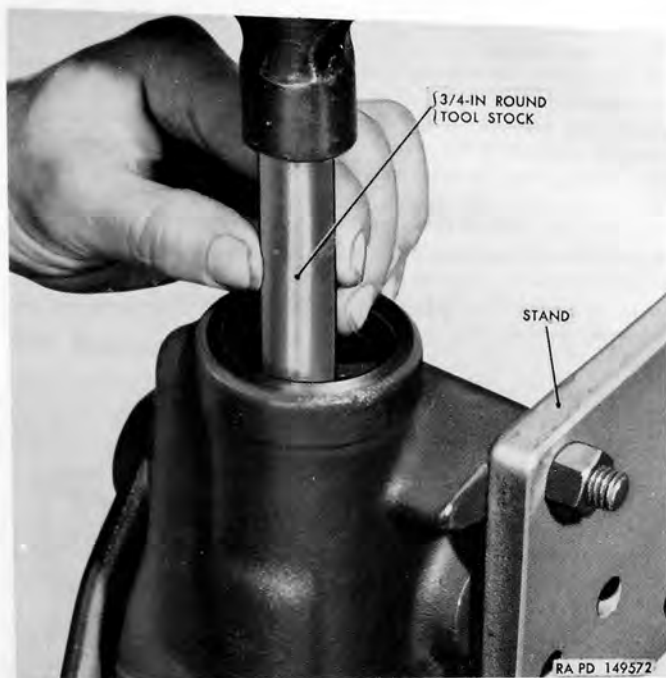

Figure 212. Installing intake valve spring retainer with shock absorber mounted in stand 41-S-4977-5.
- (1) Mount shock absorber body on shock absorber rebuilding stand 41-S-4977-5 in vertical position. Move shock absorber arm to position piston at top.
- (2) Drop intake valve (K) into piston with raised side up, and place intake valve spring (L) on top of valve with small end of spring next to valve. Place intake valve spring retainer (M) in piston; then using a piece of 3/4-inch round tool stock (fig. 212) as a driver, drive retainer down until it seats in groove in piston. Make sure retainer is fully seated in groove and is not driven down beyond the groove.
- (3) Turn shock absorber body over and position other end of piston at top; then install the other intake valve, spring, and retainer as in (2) above.
- (4) Install end plug (A) with new end plug gasket (B) in each end of shock absorber body and tighten firmly, using a short-